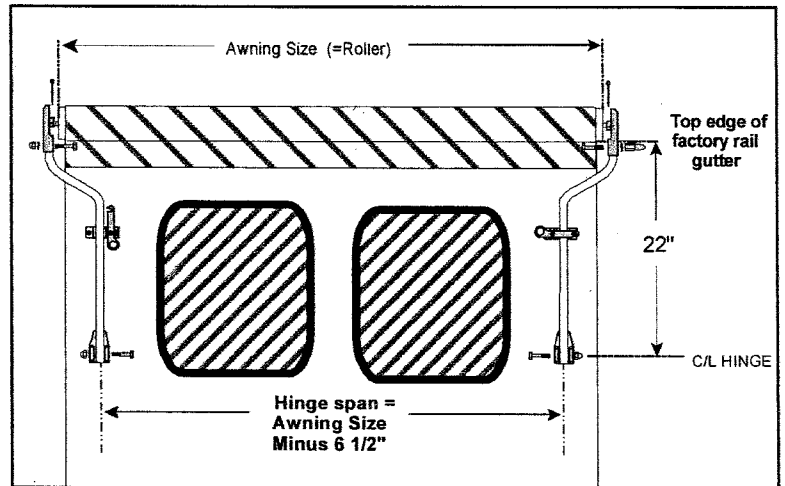
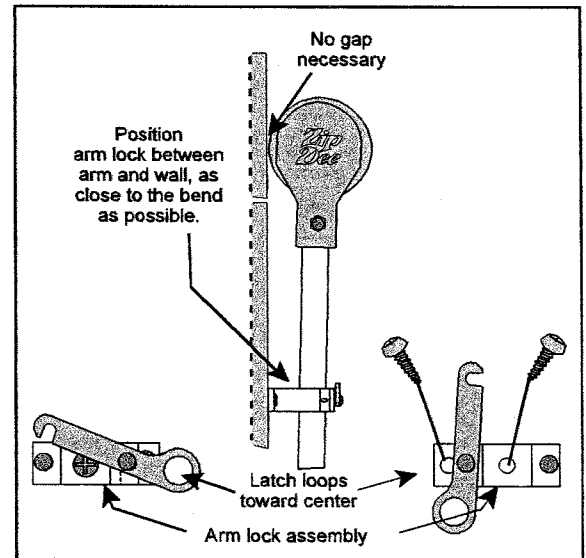

Figure 2
Figure 1a
3. Measure 22" down from the top edge of the factory rail gutter to establish the **horizontal** center line of the hinges. Mark the **vertical** mounting lines so the span between the these lines is equal to the awning length less 6 1/2" (Fig.2). Install the hinges on the vehicle, so that the **vertical** mounting lines pass through the 2 **vertical** holes in the hinge and the **horizontal** center is in line with the two horizontal holes in the casting (Fig. 2). Drill through the two hinge mounting holes with a 13/64" or #8 drill and attach the hinges with the #14 x 1" flat head screws provided. Seal the holes with silicone sealant.
5. Attach the arms to the hinges with 1/4"-20 X 1 5/8" bolts. Position the arms so that the offset is towards the edges of the Slideout (Fig. 2).
11. Open the awning slightly and place the arm locks between the arms and the coach with the loops in the latches inward facing each other. (Fig. 1a). Temporarily place a rubber pad (provided in hardware kit) between the arm and the arm lock. Position the arm locks on the sidewall as close to the bottom of the offset bend in the arm as possible (Fig. 2) so that the lever clears the arm. This provides support to the arm close to the roller and prevents the arm from striking the coach wall in opening. Locks should not hold roller away from coach.